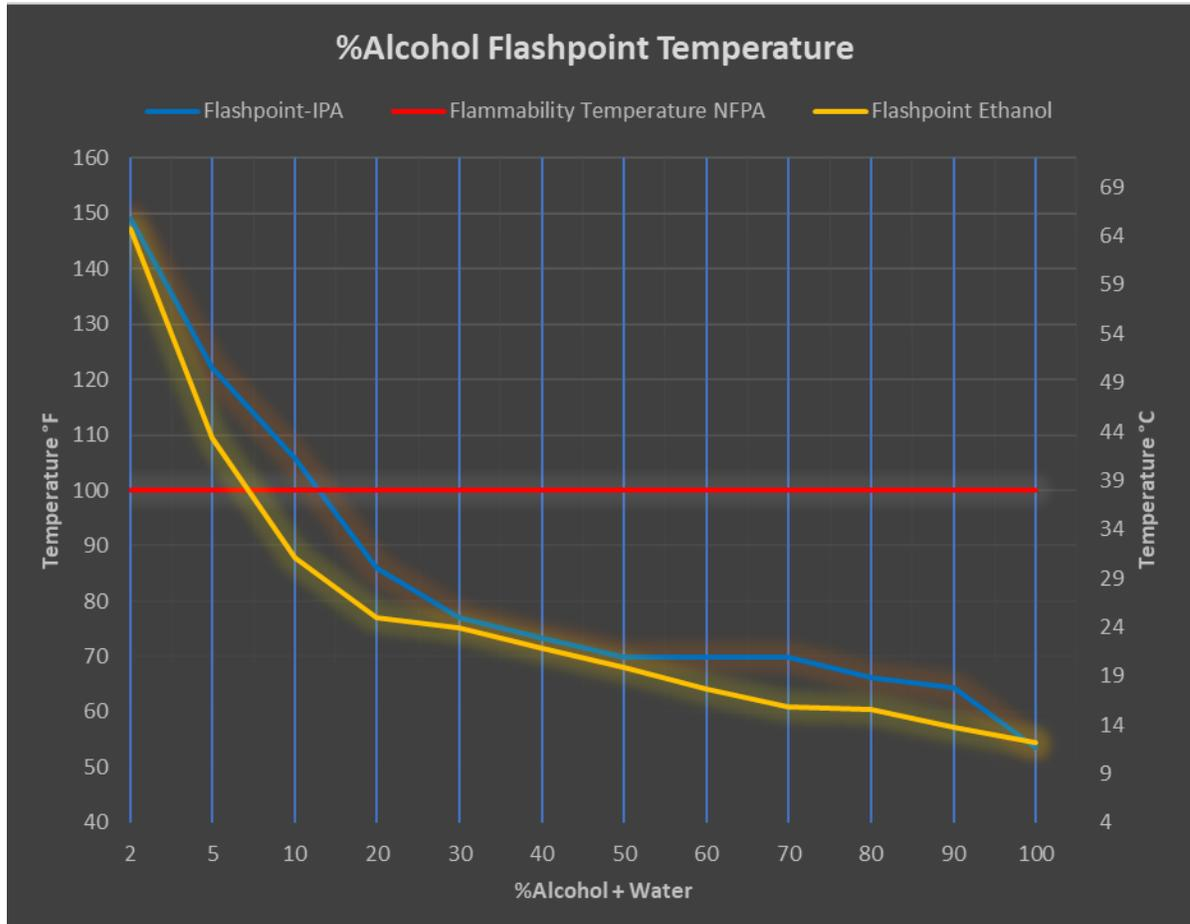

Figure 36 – Alcohol + Water Flashpoint Temperature
- VIII.8.2.a Reviewing **Figure 36** (*Astbury, G.R. & Bugand-Bugandet, J. & Grollet, E. & Stell, K.M. (2005), Flash points of aqueous solutions of flammable solvents. Institution of Chemical Engineers Symposium Series. 505-522 (7)*), at 2% IPA + Water solutions are classified as combustible with a flashpoint of 65°C/149°F. At greater than ~7.5% Ethanol or 10% IPA +Water solutions are classified as flammable with a flashpoint less than 100°F/38°C.